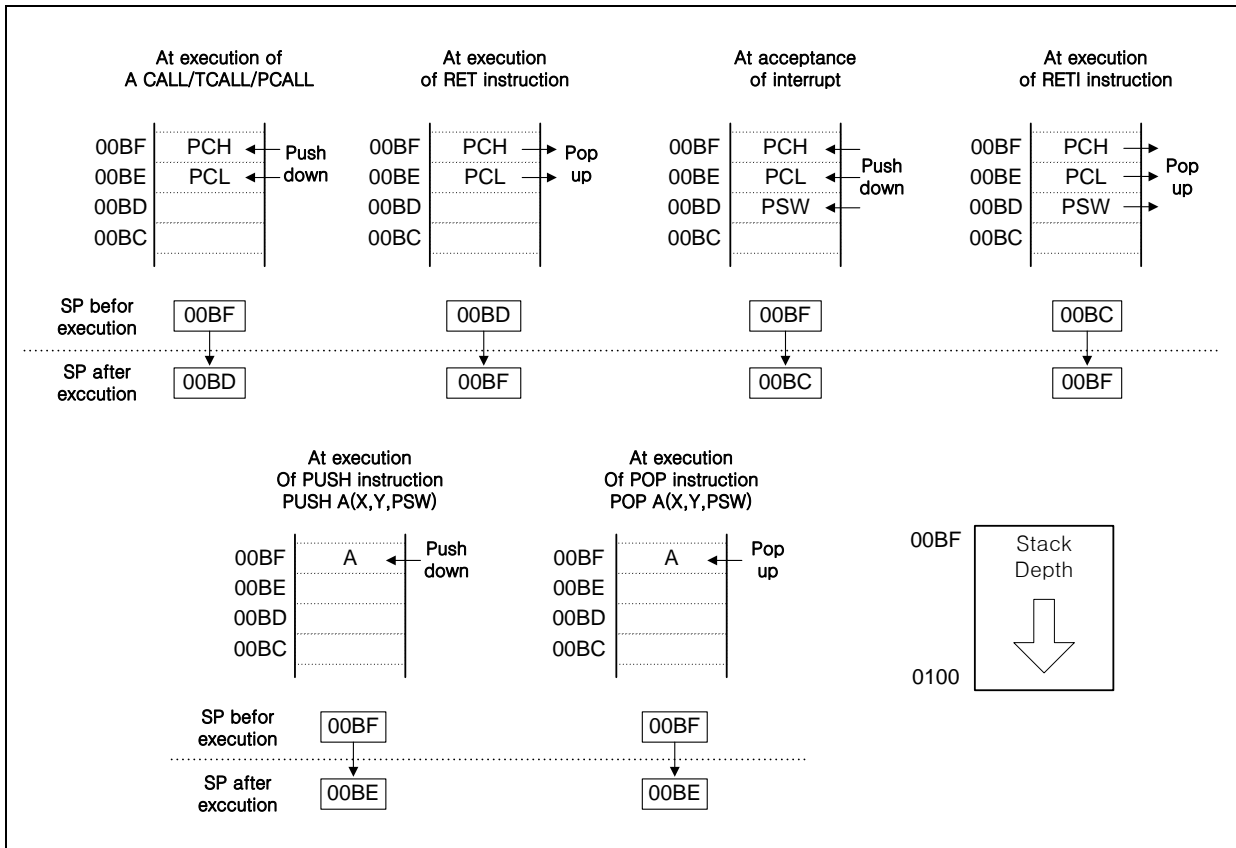

Figure 9-4 Stack Operation
The save/restore locations in the stack are determined by the stack pointed (SP). The SP is automatically decreased after the saving, and increased before the restoring. This means the value of the SP indicates the stack location number for the next save. Refer to Figure 9-4. .